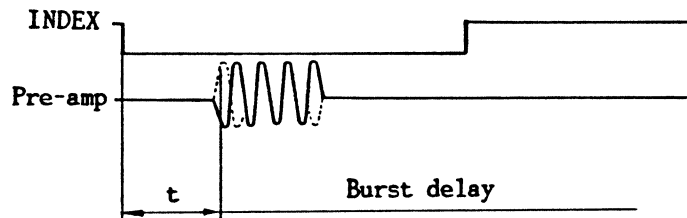

Fig. 416 Index Burst Timing
- (2) Install the alignment disk and rotate the spindle motor.
- (3) Move the head to the track 40.
- (4) Measure t in Fig.416.